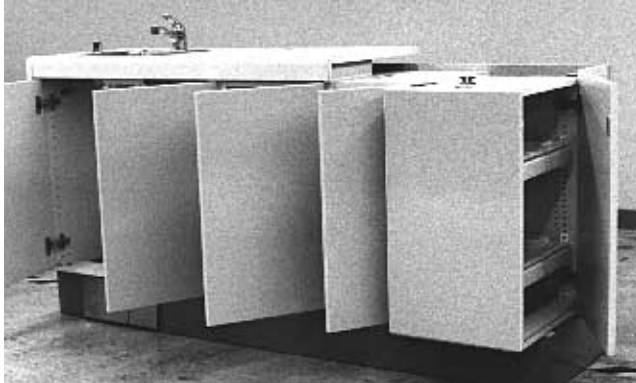
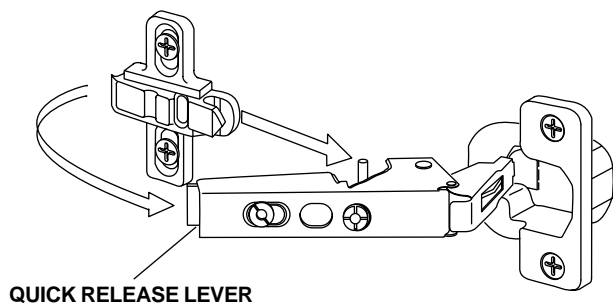

FIGURE 2
FIGURE 3
3. Remove the doors, drawers and slide out panels from the lower module (see Figure 2). The doors are fitted with quick disconnect hinges. To remove a door, pull on the quick release levers at the rear of the hinges (see Figure 3).